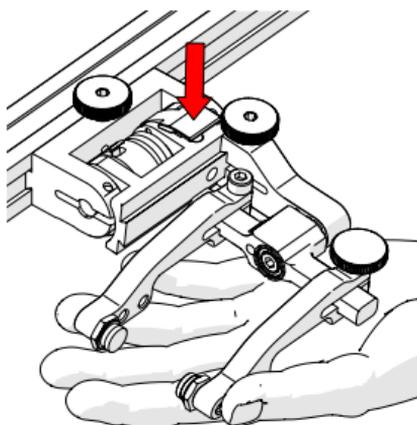

Fig. 100 - Lift slightly and press latch
2. Lift the probe holder slightly and press the latch button (Fig. 100) to release the probe holder the full 45° degrees.